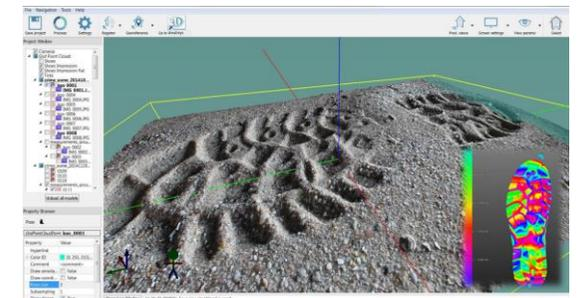

Fig. 8 Footwear impression with colour map and depth
- Recording the 3D-profile of impressions in a digital point cloud in μm – accuracy (Fig. 8)